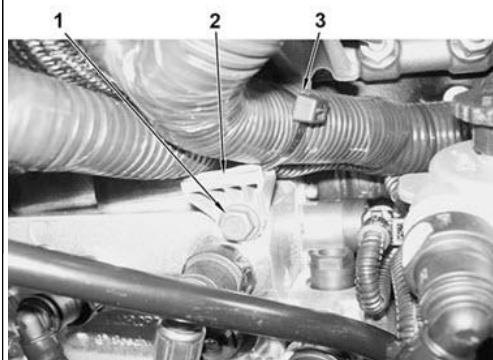

**Figure 21 - Saddle added to secure harness**
25. Install saddle to rear of fuel pump using bolt and existing hole at rear of high pressure fuel pump. Apply blue loc-tite on bolt threads.and torque bolt to 7 ft-lb (9 N•m)(Figure 21, Item 1).
26. Secure harness to saddle with a large tie-strap (Figure 21, Item 3).